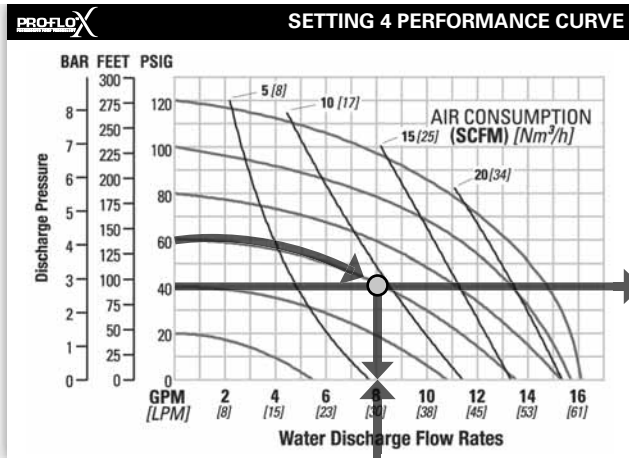

Figure 1
Step 1: Identifying performance at setting 4. Locate the curve that represents the flow rate of the pump with 4.1 bar (60 psig) air inlet pressure. Mark the point where this curve crosses the horizontal line representing 2.8 bar (40 psig) discharge pressure. (Figure 1). After locating your performance point on the flow curve, draw a vertical line downward until reaching the bottom scale on the chart. Identify the flow rate (in this case, 8.2 gpm). Observe location of performance point relative to air consumption curves and approximate air consumption value (in this case, 9.8 scfm).